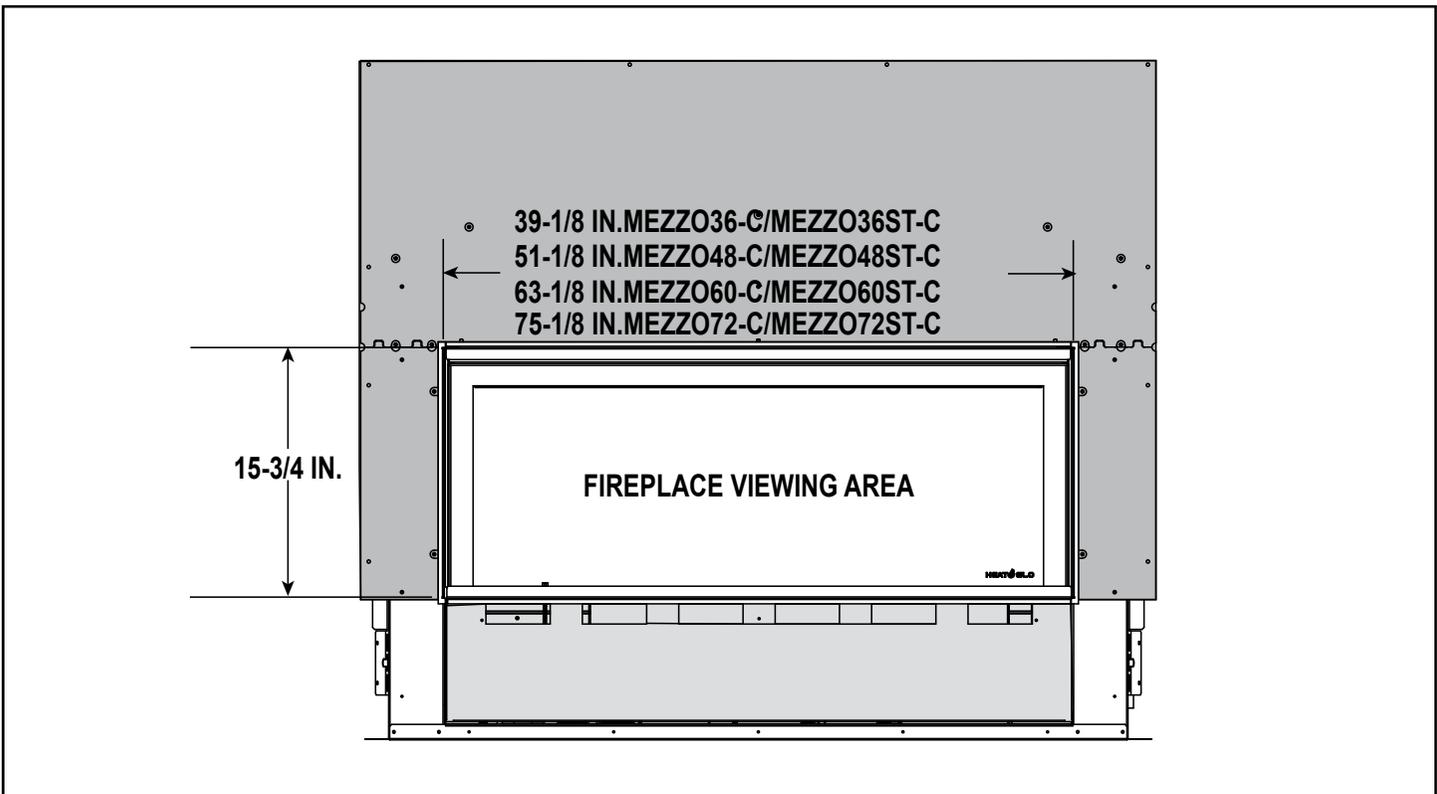

Figure 10.4 Minimum Finished Opening Dimensions - Clean Face Trim Front Method
2. The non-combustible finish material, 0-1 inch thick, should be installed up to the fireplace opening on all four sides, including the bottom access panel, covering the eight rectangular holes. Refer to Figure 10.4 for minimum finished opening dimensions.
2. The non-combustible finish material, 1-4 inches thick, should be installed up to the fireplace opening on all four sides, including the bottom access panel, covering the eight rectangular holes. Refer to Figure 10.4.